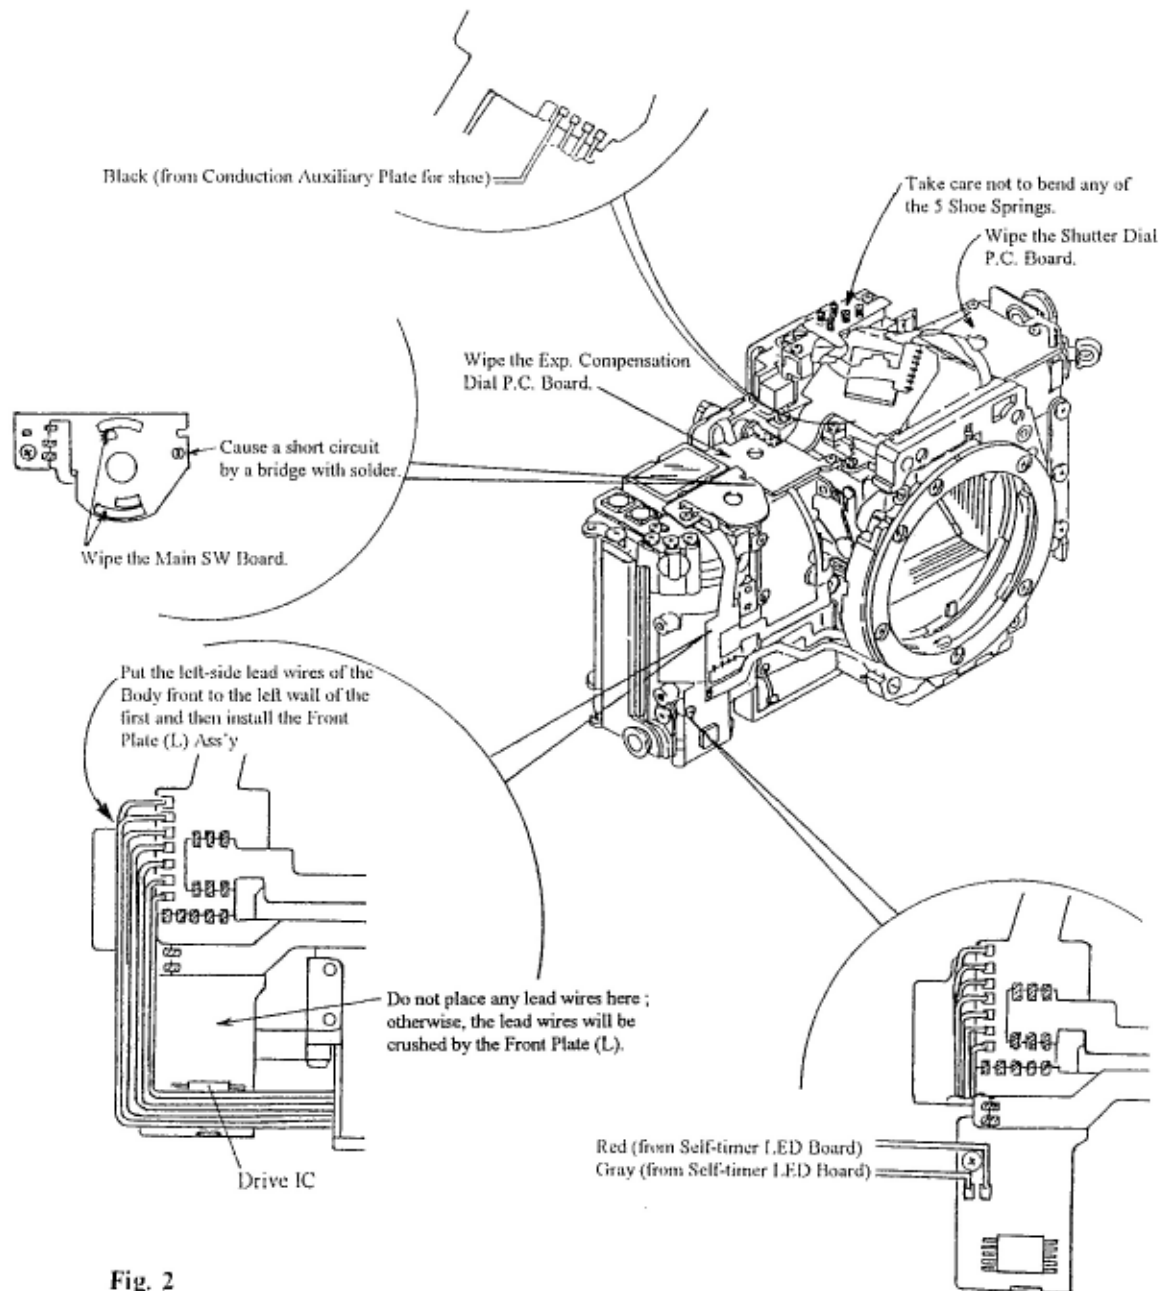

Fig. 2
- 2) Unsolder the Black lead wire (from the Conduction Auxiliary Plate for the shoe) on the Main FPC. (See Fig. 2).
- When the Top Cover Ass'y has been removed, take care not to bend or deform the Shoe Spring on the Main FPC Ass'y. (See Fig. 2)
- The Front Plate Rubber (R) and Front Plate Rubber (L) are fixed to the Body with the Front Plate Rubber Tape (double-stick tape).
- Once the Front Plate Rubber (R) and Front Plate Rubber (L) have been peeled off, the adhesive strength of the Front Plate Rubber Tape weakens. Be sure to replace the Front Plate Rubber Tape with new one.
- 4) Remove the Front Plate (L) Setscrews (69113576) \times 4 and take off the Front Plate (L) (1AWB5300), and unsolder the Red and Gray lead wires (from Self-timer LED Board) on the Main FPC. (See Fig. 2)
(See Fig. 2)
- a) To operate the camera with the Top Cover Ass'y removed, cause a short circuit by a bridge with solder on the pattern of the Main SW Board as shown in Fig. 2.
- a) As shown in Fig. 2, put the left-side lead wires of the Body front to the left and dress them over the Drive IC first and then install the Front Plate (L) Ass'y (1AWB5300).